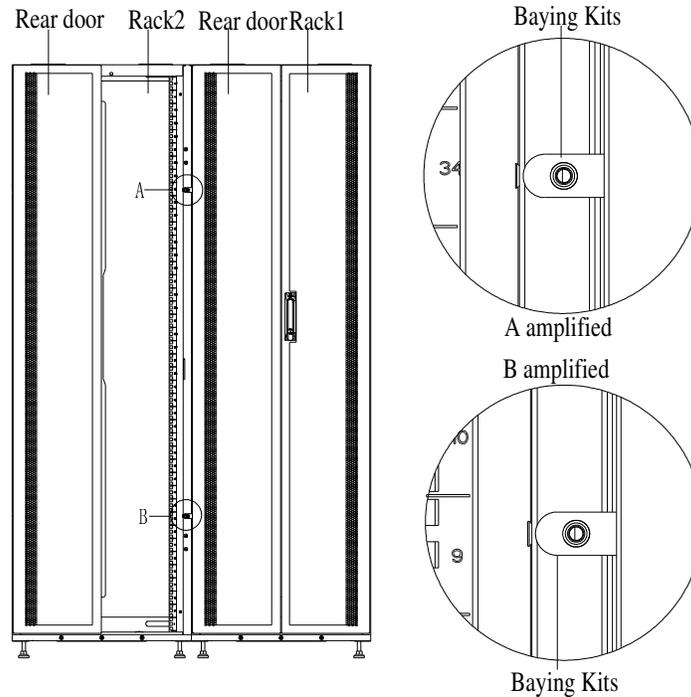

Figure 3-25 Baying the Rack in the Rear
2. As shown in Figure 3-25, remove the Rack 2 right rear door, for disassembly method refer to section “3.6. Removing the Front and Rear Door”, use the M5 sinking head screws to secure the rack to Rack 2.